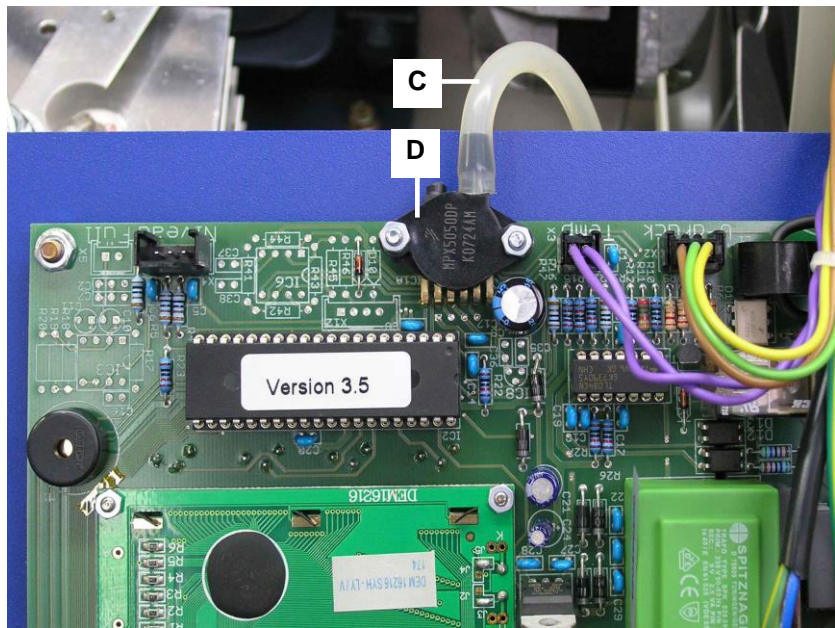

Fig. 6.4.2 Gas hose with pressure sensor
3. Check the hose inside the unit (*fig. 6.4.2.C*) between reactor and pressure sensor (*fig. 6.4.2.D*) for traces of liquid (electrolyte) or crystal deposits (dried electrolyte).